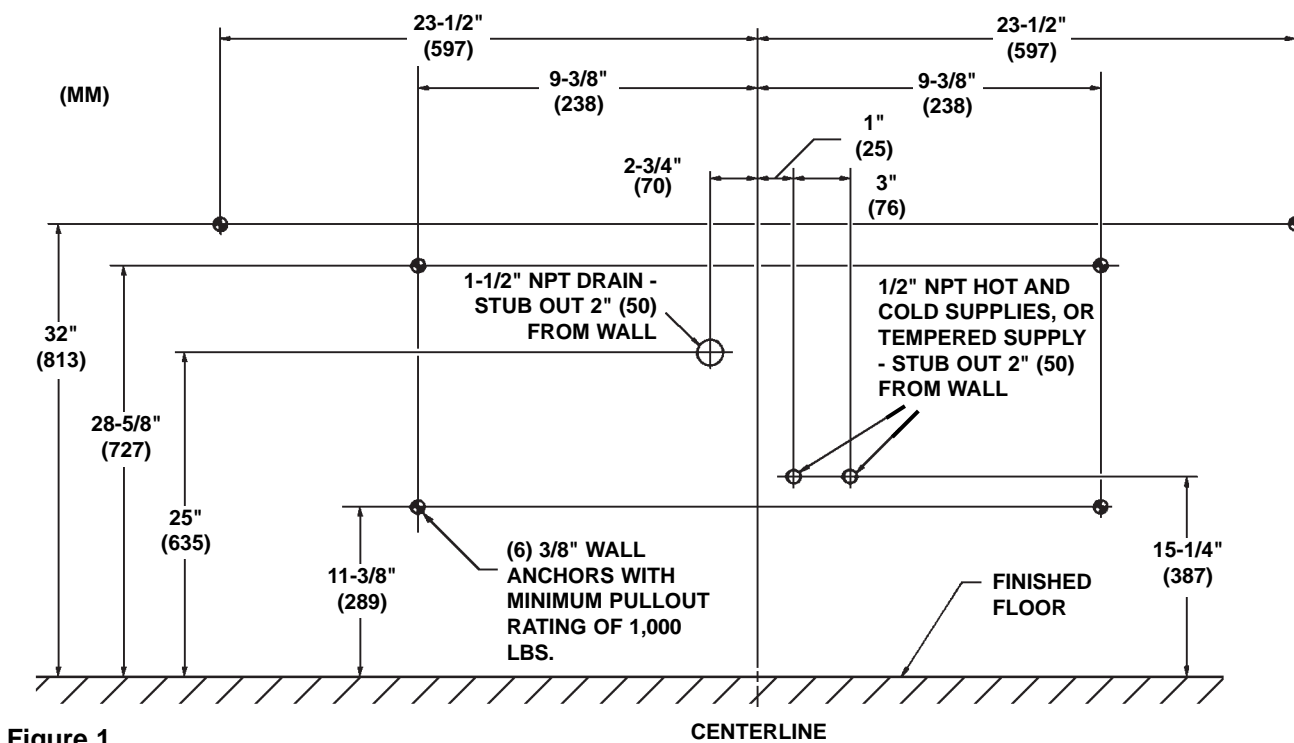

Figure 1
Note: See Figure 1 below (for Standard Height) and Figure 1a on page 6 (for Juvenile Height) when roughing in the Express®.
⚠ IMPORTANT: Dimensions shown in Figure 1 are for Standard Height and in Figure 1a for Juvenile Height.
3. Install (6) 3/8" wall anchors with a minimum pull-out rating of 1,000 lbs. (supplied by installer) at the locations shown in Figures 1 and 1a.